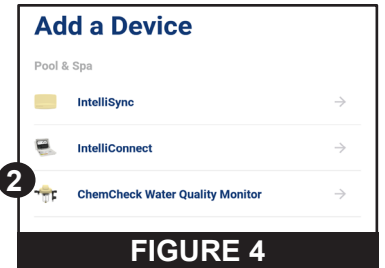

FIGURE 4
1. At the top of the Home Dashboard screen, press ADD A DEVICE (1).
2. The Add a Device screen will display. See **FIGURE 4**.
3. From the list of devices, press CHEMCHECK WATER QUALITY MONITOR (2).